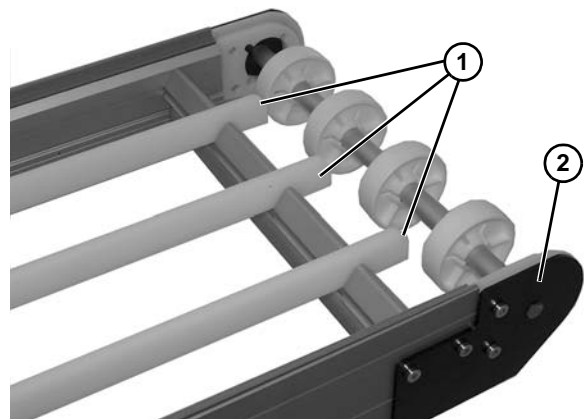

**Figure 33**
2. If necessary, rotate upward and remove bracket (**Figure 33, item 1**), from frame channel (**Figure 33, item 2**).